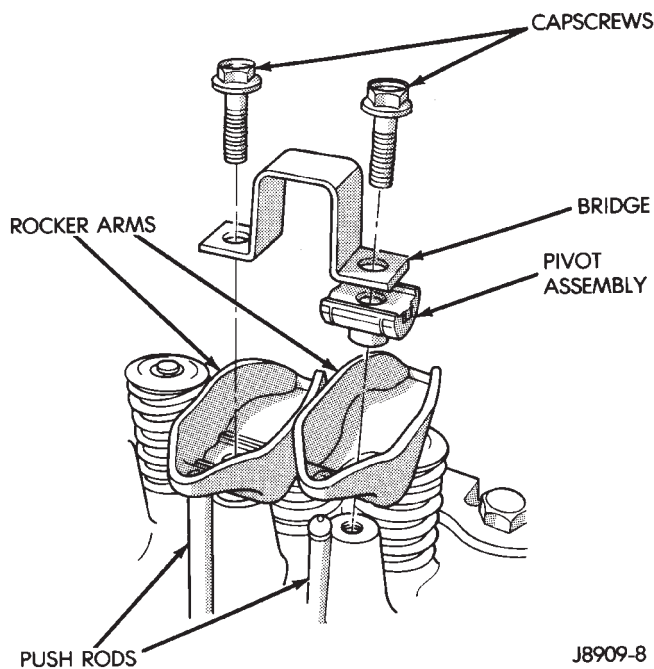

Fig. 31 Rocker Arm Assembly
- (1) Remove the engine cylinder head cover. (Refer to procedure in this section)
- (2) Check for rocker arm bridges which are causing misalignment of the rocker arm to valve tip area.
- (3) Remove the capscrews at each bridge and pivot assembly (Fig. 31). Alternately loosen the capscrews one turn at a time to avoid damaging the bridges.
- (4) Remove the bridges, pivots and corresponding pairs of rocker arms (Fig. 31). Place them on a bench in the same order as removed.
- (5) Remove the push rods and place them on a bench in the same order as removed.